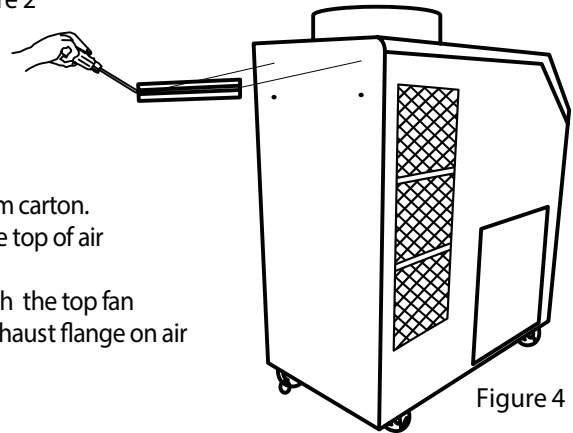

Figure 4
3. Use screws (enclosed inside of box with a handle) to install the handle as shown in Figure 4.